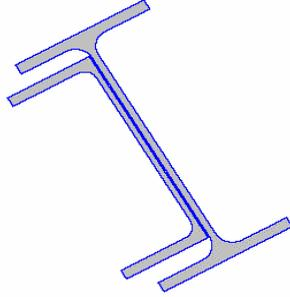

Fig. 70 *The section after the first channel has been set*
- press the **Add** button (Fig. 70). Once the channel has been set a message about the intersection with the I-section is issued (ref. Intersection of Section Elements for details). In this case, this is because the channel overlaps the curved parts of the I-section web. The intersection can be ignored in the example.